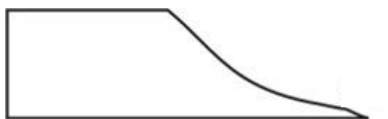

Fig. 11-7. Typical shape of a wire cutoff (apex of the tip)
2. Cut the wire at an angle of 10÷15 degrees as close to its apex as possible and simultaneously pull the scissors along the wire axis to separate the part being cut off. This is done to avoid the contact between the cutting edges of the scissors and the tip apex. This procedure implies rather a tearing off the wire in the last moment than truncating it. This provides a sharp apex, formed at the wire's end (Fig. 11-7).